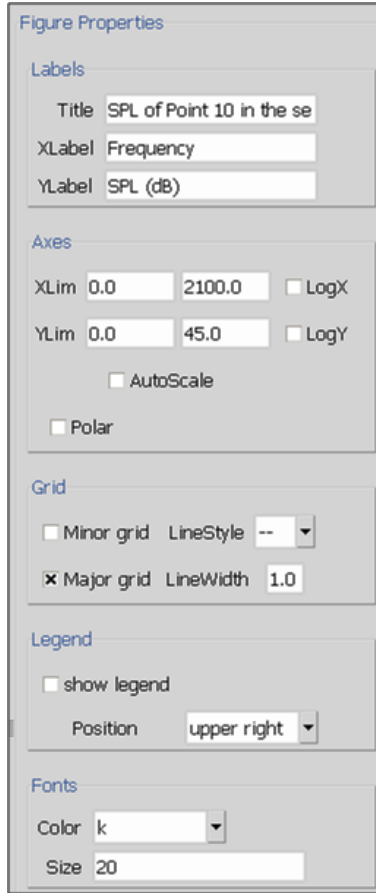

Figure 6.37: Edit the figure properties
- Edit the properties of the curve in the Figure properties window and in the curve properties (Figure 6.37 and Figure 6.38).